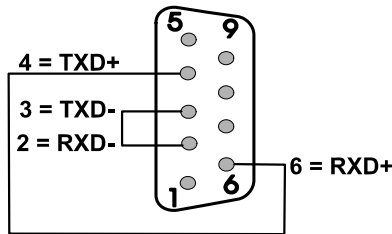

Figure 3-10 - RS-485 Loop-back Plugs
- Ports 3, 5 & 9 - RS-485 use a 9-pin female D-type loop-back plug (see Fig. 3-10).